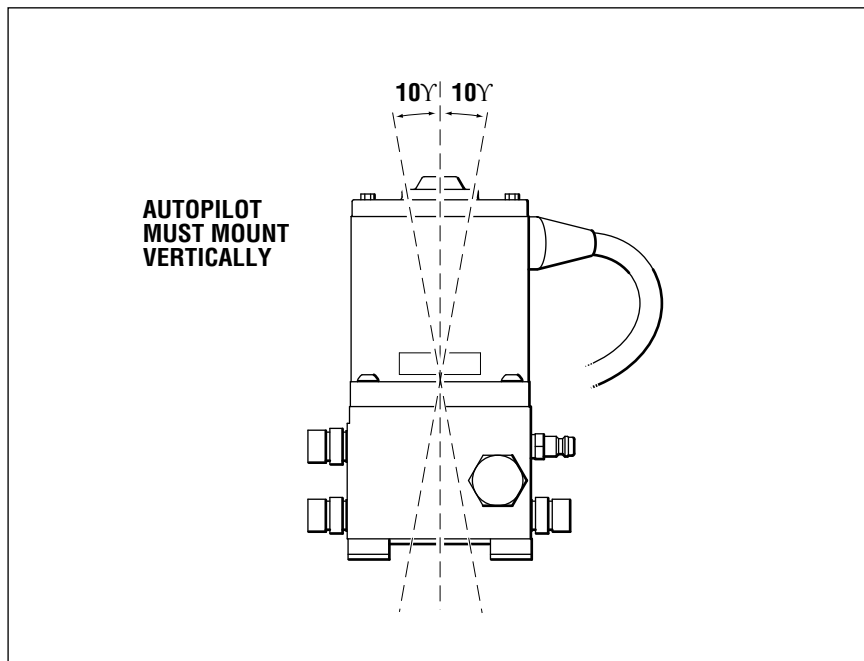

Figure 3.
- Using the four (4) holes in the mounting bracket, mount the pump using #10 fasteners in your desired location. Prior to drilling, confirm that there is sufficient room to allow for hose connections and tightening of these hoses.
- Install the Autopilot pump in a vertical position (refer to figure 3). DO NOT mount the unit in a horizontal position.